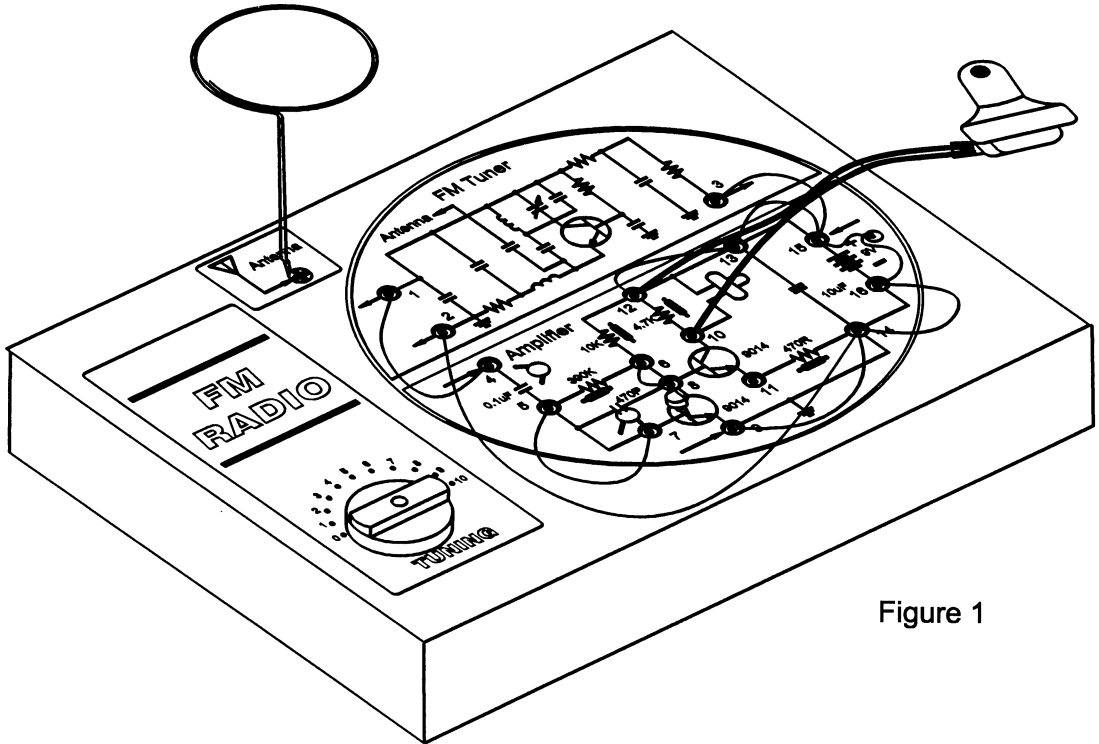

Figure 1
Refer Back to Figure 1 and install the final wires on the top, as illustrated and noted below:
2. Place your Board next to Figure 1 and compare each part and its leads to the illustration.